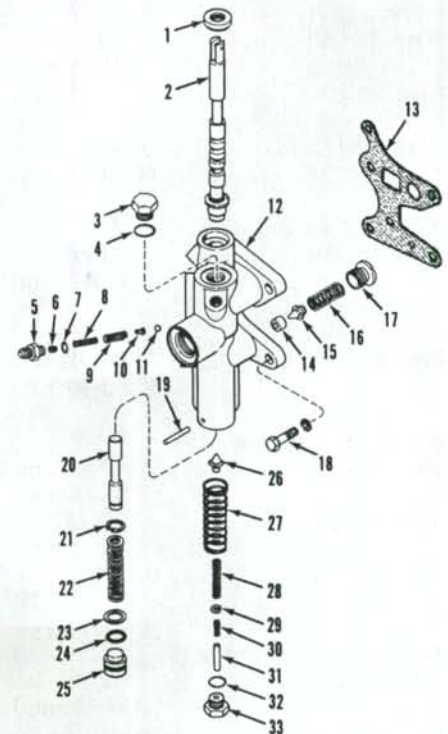

Fig. 224—Exploded view of pto valve and flow-regulator used on Models 2394 and 2594.
201. OVERHAUL. To disassemble the pto control and flow-regulator valve, refer to Fig. 224 and remove connector (5), adjusting screw (6), springs (8 and 9), guide pin (10) and detent ball (11). Remove plug (33), with "O" ring (32) and pin (31), secondary spring (30), washer (29), primary spring (28), modulator poppet (26), return spring (27) and control spool (2) from bottom of valve body. Remove relief valve plug (17), spring (16) and relief valve (15). Valve seat (14) can be removed for renewal if necessary. Place a "C" clamp over pressure regulator plug (25), then drive out roll pin (19). Loosen "C" clamp to release spring pressure from plug (25). Remove plug, shims (23) and regulator spring (22). Remove plug (3)